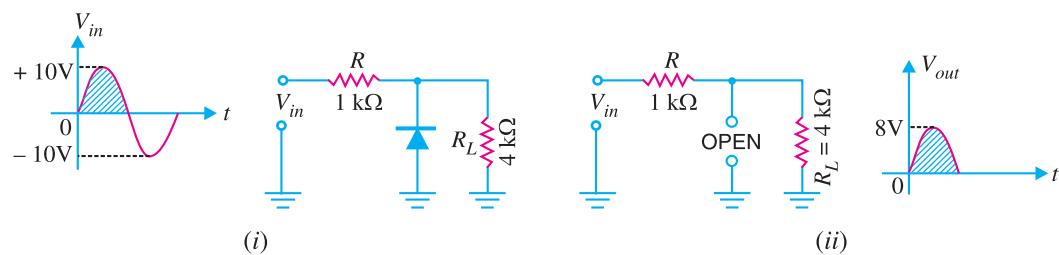

Fig. 18.29
**Example 18.8.** The negative shunt clipper shown in Fig. 18.29 (i) has a peak input voltage of + 10 V. What is the peak output voltage from this circuit ?
**Solution.** When the diode is connected in parallel with the load, it is called a shunt clipper. During the positive half-cycle of input ac signal, the diode is reverse biased and it will behave as an open. This is shown in Fig. 18.29 (ii). With diode as an open,